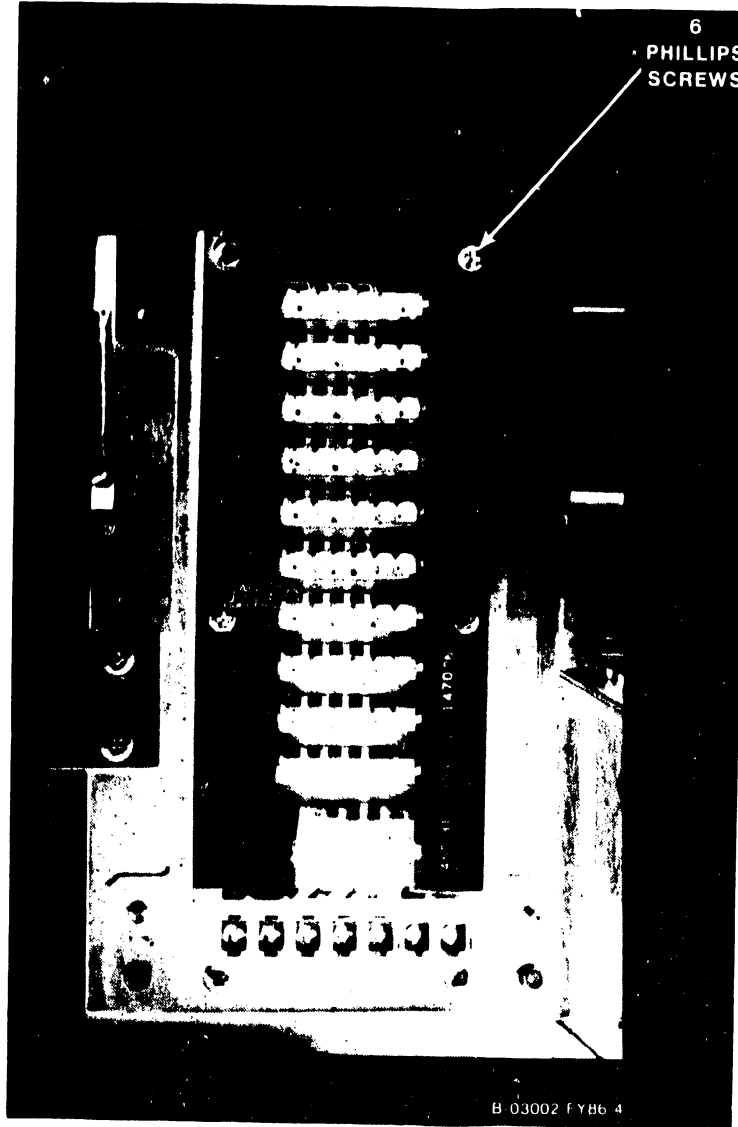

Figure 7-49. Second DC Distribution Board Removal
8. Remove the six Phillips screws from the board standoffs, (figure 7-49) and remove the board.